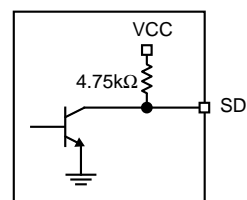

Figure 5. SD Output Structure
The SY88843V incorporates a chatter-free, SD open-collector TTL output with internal 4.75kΩ pull-up resistor as shown in Figure 5. SD is used to determine that the input amplitude large enough to be considered a valid input. SD asserts high if the input amplitude rises above the threshold set by SDLVL and de-asserts low otherwise. SD can be fed back to the enable (EN) input to maintain output stability under a loss-of-signal condition. EN de-asserts low the true output signal without removing the input signals. Typically, 4.6dB SD hysteresis is provided to prevent chattering.